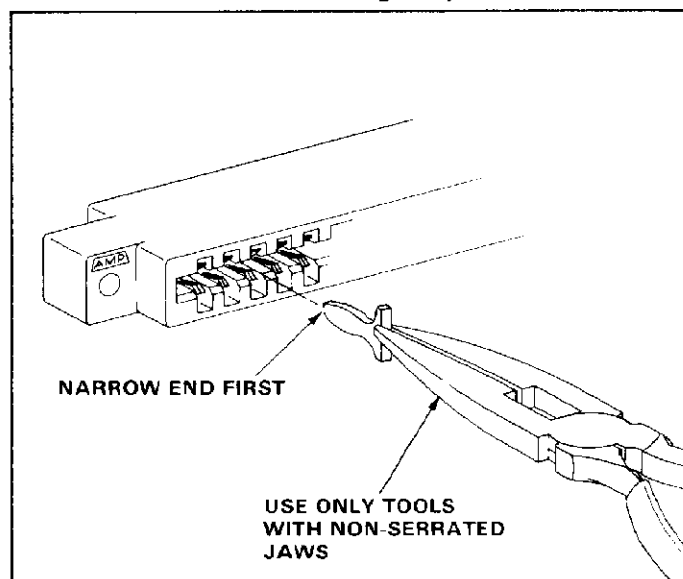

Fig. 3
3. KEYING PLUG INSTALLATION AND REMOVAL (Figure 3)